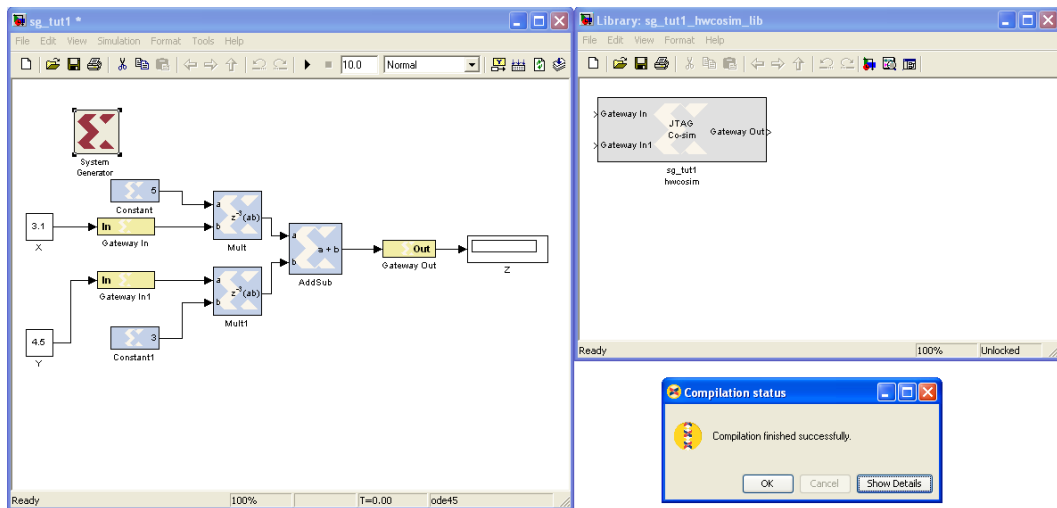

Figure 14: Netlist building Complete
- When the compilation is complete, a new library is created including one block as shown in Figure 14. The library name should be “**sg\_tut\_1\_hwcosim\_lib**” and the block name should be “**sg\_tut\_1\_hwcosim**”. The block has two inputs and one output as required by the DSP system. This block includes all the functionality required for the system to be executed on the FPGA.